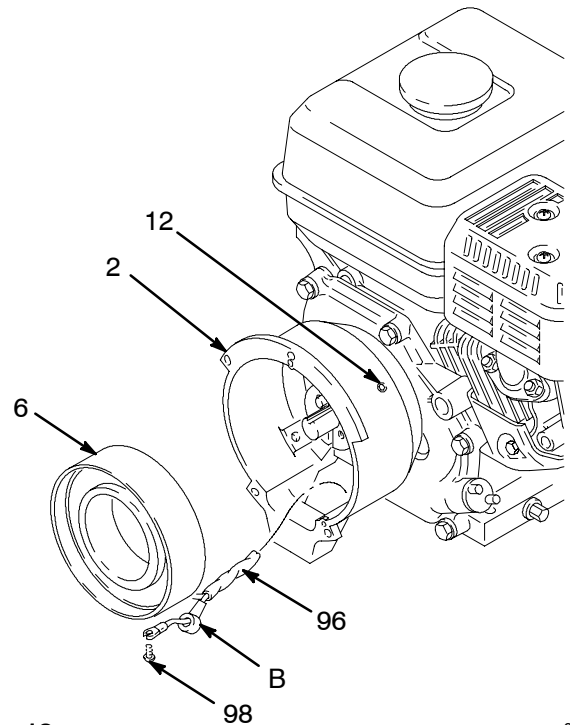

Fig. 13
**NOTE:** Refer to Fig. 13.
1. Loosen the four setscrews (12) holding the field (6) to the clutch housing (2).
3. Pull the plastic caps (B) off the wire screws (98) in both places on the field. Loosen the screws and release the wires (96).